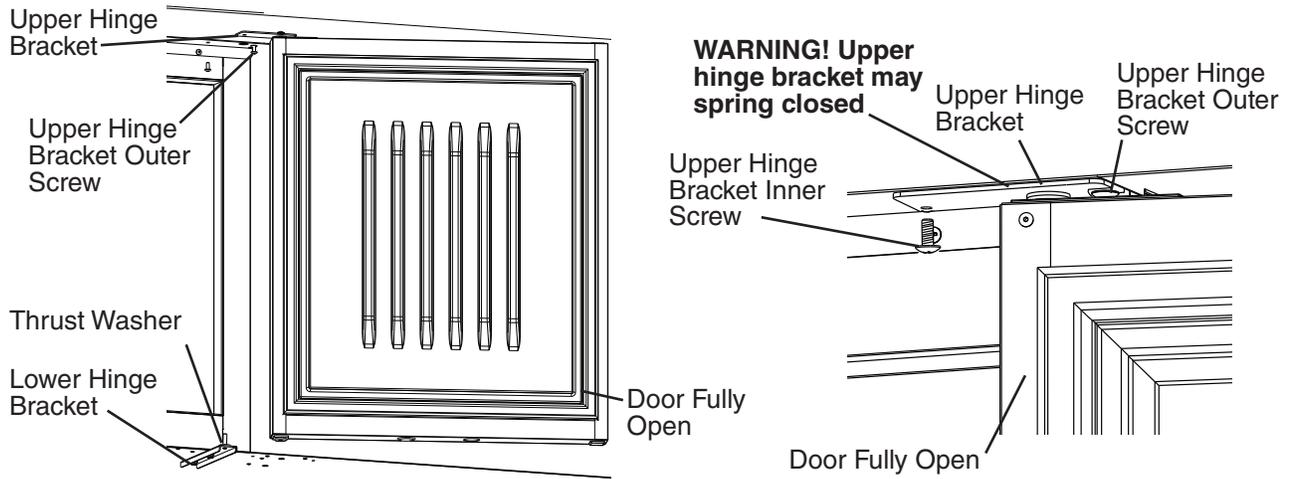

Fig. 29
17) Be sure the lower hinge bracket thrust washer is in place, then place the door on the lower hinge bracket in the fully open position. Slide the door upper hinge bracket outer slot onto the upper hinge bracket outer screw. See Fig. 29.